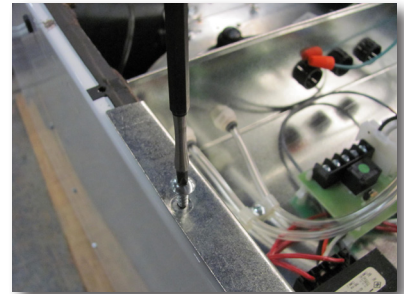

Fig. 11
11. Secure the circuit box back to the air handler by the "u" flange on one side of the casing, and screwing down the other side. (Fig. 11)